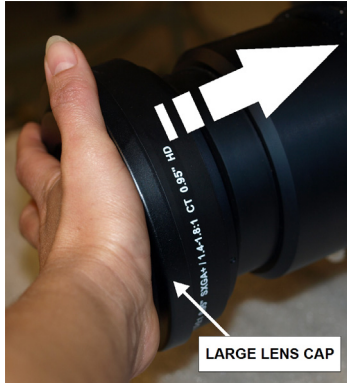

FIGURE 2-2 LENS PLACEMENT
2. Align the lens interface plate with the lens mount. Align the lens electrical connector with the mating connector on the lens mount. Fully insert the assembly straight into the lens mount opening without turning. Press using your hand as shown in Figure 2-2. **NOTE:** When installing the lens, ensure that the lens is not inserted at an angle, as this can cause damage.